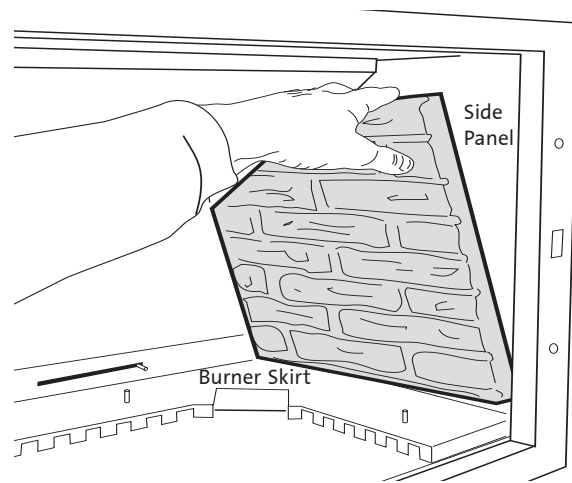

Figure 39. Install the Side Panels.
3. **Install the Side Panels.** Set the bottom edge of each side panel on the Burner Skirt and against the firebox wall. Push the panel forward against the front lip of the firebox opening. See fig. 39.